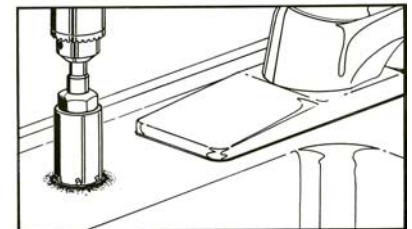

Figure 7 Porcelain Cutter Kit P/N 36201003
Use of a spring-loaded porcelain drill set is strongly recommended (Figure 7).
The plastic sleeve supplied on pilot drill (Figure 7.A) is to be positioned on drill bit against drill chuck. This prevents chuck from contacting porcelain after pilot hole has been completed.
1. Using carbide tipped bit with plastic sleeve (Figure 7.A.), drill pilot hole completely through porcelain and metal underneath.
2. Place spring-loaded porcelain saw (Figure 7.B.) into drill chuck. Make sure pilot guide is inserted tightly. Insert pilot guide into pilot hole. Push down gently on drill motor to apply light pressure to porcelain surface. Start drill motor turning as slowly as possible.
3. Place finish hole saw (Figure 7.C.) into drill chuck. Make sure pilot guide is inserted tightly. Insert pilot guide into pilot hole. Begin cut using a slow speed and light pressure until porcelain (inside ring cut in Step 2) has been penetrated to material underneath.